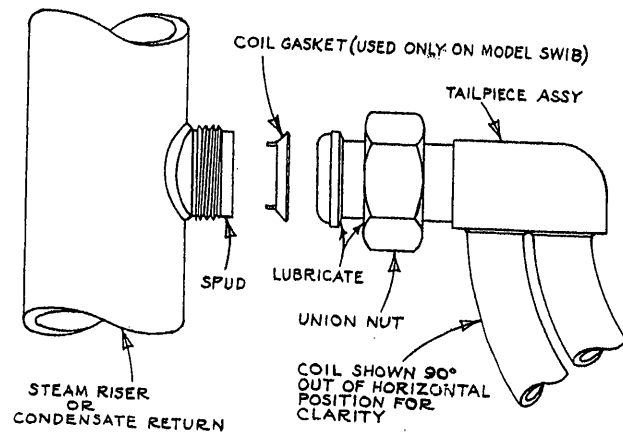

Figure HE-101-7 -- Assembly of Coil to Steam Riser or Condensate Return
- D9. If a coil must be replaced, use a 1-5/16" open end wrench to disconnect the unions holding the coils to the steam riser and condensate return. Be careful not to damage the spud threads (see Figure HE-101-7).
- See Figure HE-101-7. A coil gasket is required for each coil union in a Model SW1B Heater (see Figures HE-101-9 and HE-101-10 for the differences between Model SW1A and SW1B Heaters). It is recommended that coil gaskets be replaced whenever a coil is re-assembled to a riser or return even though the coil itself is not being replaced. Snap the gasket into the riser or return spud.